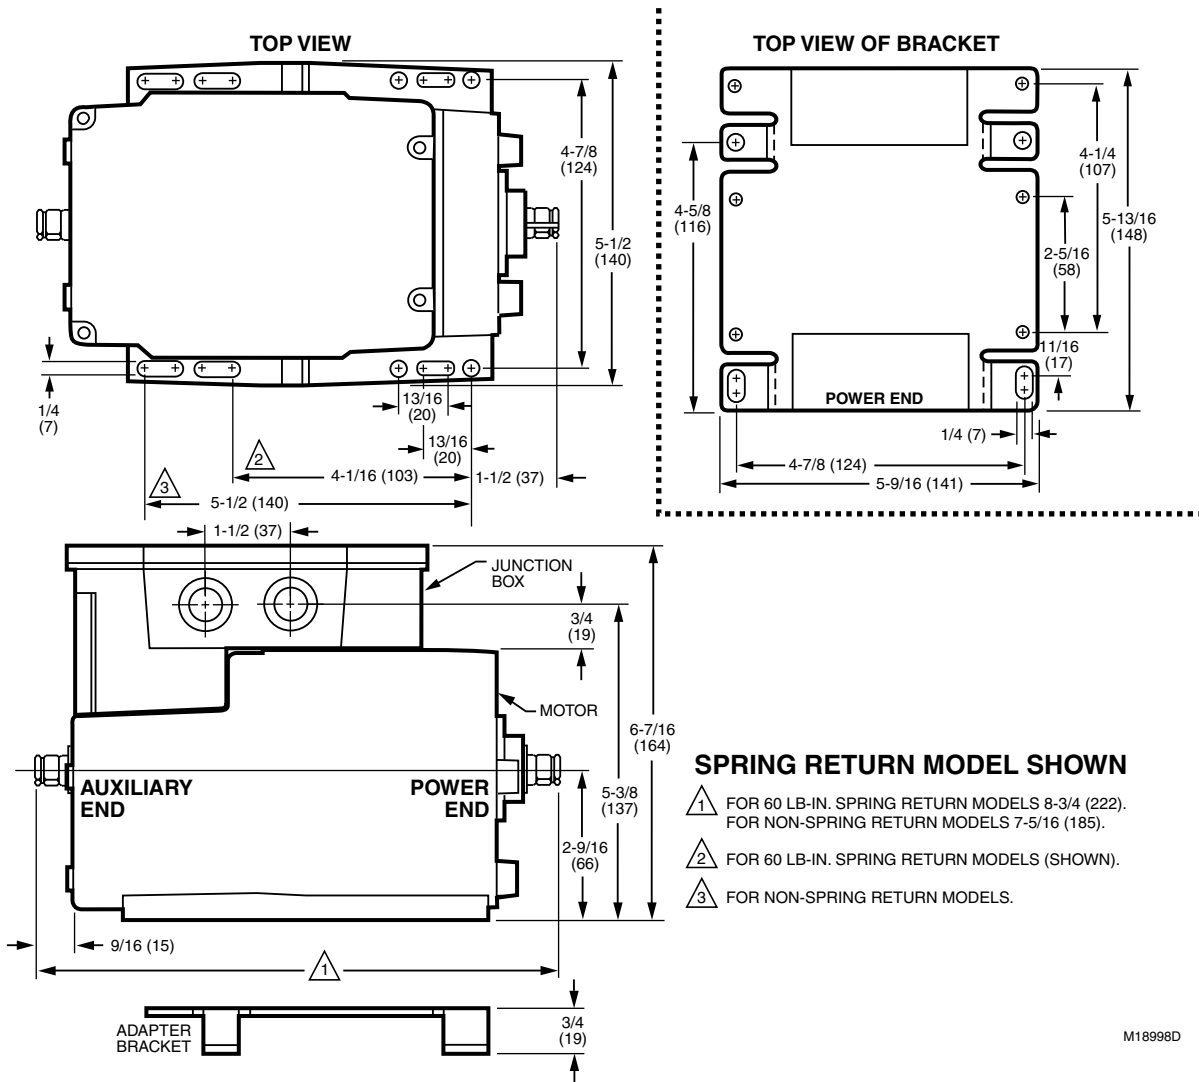

Fig. 2. Modutrol IV Motor mounting dimensions in inches (mm).
**Dimensions:** Refer to Fig. 2.
Allow enough clearance for installing accessories and motor servicing when selecting a location (See Fig. 2). If located outdoors, use liquid-tight conduit connectors with the junction box to provide NEMA 3 weather protection. If mounted outdoors in a position other than upright, install a 4074ERU Weatherproofing Kit and liquid-tight connectors to provide NEMA 3 protection.